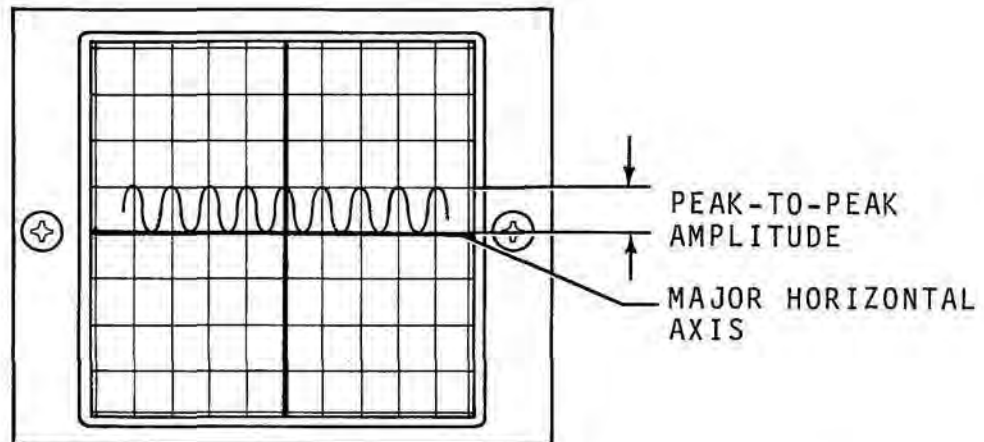

Figure 3-5 Measuring Amplitude Of Sinewave
To facilitate measurement of sinewave amplitude, adjust VERT Control (40) so negative peaks of waveform rest on major horizontal axis as shown in Figure 3-5.
To facilitate measurement of sinewave amplitude, adjust VERT Control (40) so negative peaks of waveform rest on major horizontal axis. (See Figure 3-5.)
9. Rotate VAR/OFF Control (25) fully cw:
10. Increment or decrement MODULATION FREQ Hz Thumbwheels (27) until amplitude of displayed sinewave becomes stable. Verify frequency displayed on MODULATION FREQ Hz Thumbwheels (27) is between 00980.0 Hz and 01020.0 Hz. (Frequency displayed on MODULATION FREQ Hz Thumbwheels (27) represents exact frequency of 1 kHz oscillator.)
11. Rotate 1 kHz/OFF Control (25) fully ccw, to detent.